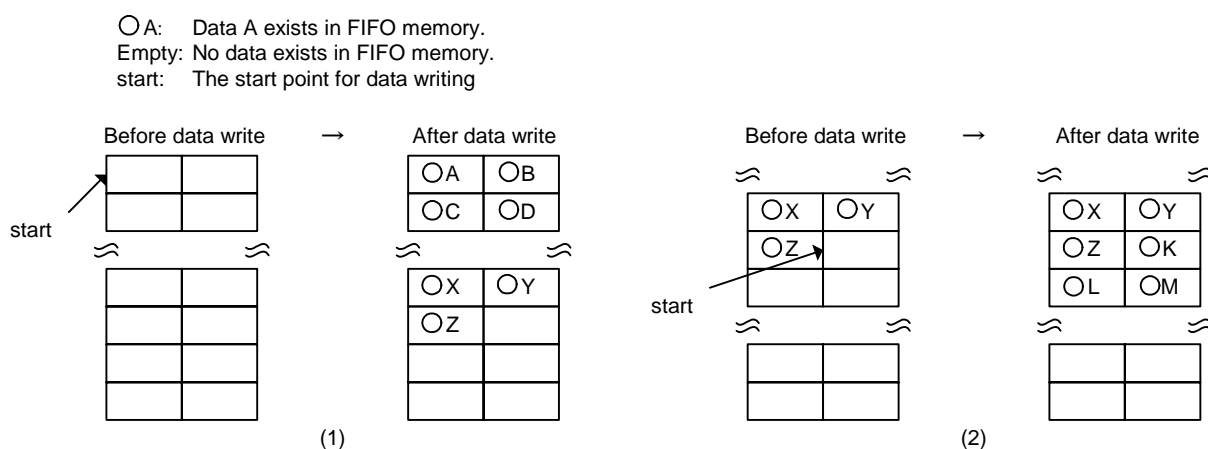

Fig. A2.6.22 FIFO Write Process (Normal operation)
You should set the EPnControl.EP0FIFO_Clr and EPrFIFO_Clr.EPx{x=a-h}FIFO_Clr bits to clear the byte boundary, and writes word data in the memory. If an odd-numbered data exists, write only the last byte of continuous data (data Z) in the High side. This status is illustrated in Fig.A2.6.22 (1). Data sets A, B, C, D, ..., X, Y, and Z are output in this order from USB and other memories.
If the FIFO memory already has a byte boundary, first write data (data K) in the Low side to clear the byte boundary. Then, write word data (data L and M) in this memory. This status is illustrated in Fig.A2.6.22 (2).